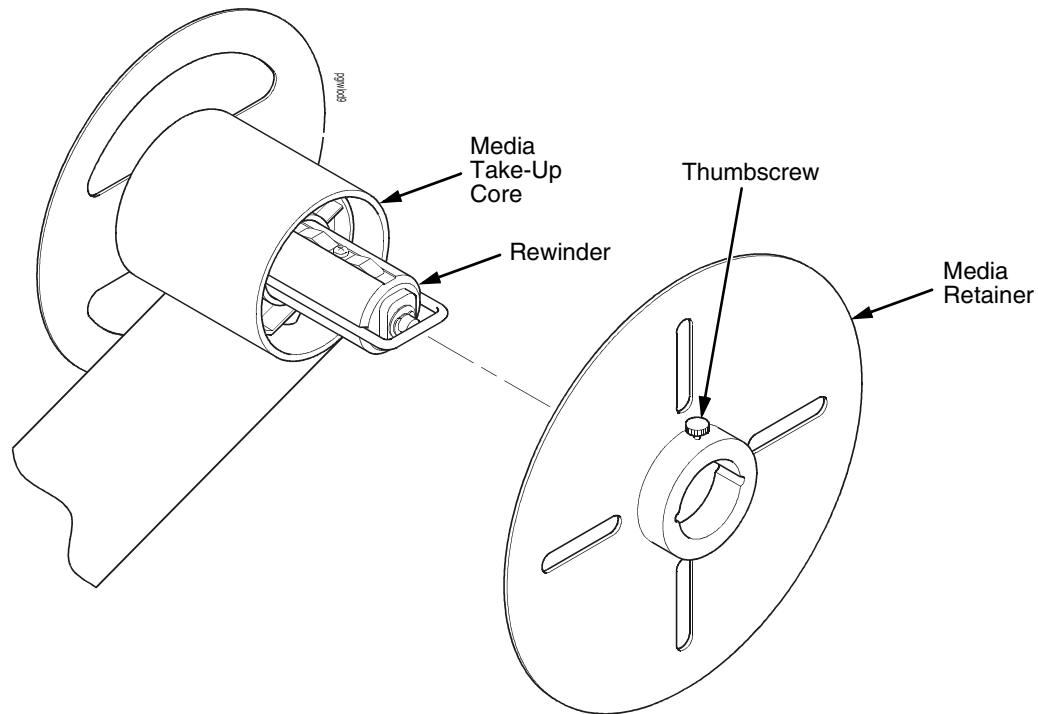

Figure 21. Installing the End Plate
8. Install the media retainer onto the rewriter as shown in Figure 21 until it is flush against the media take-up core.
3. Manually rewind the remaining printed labels onto the media roll by turning the media retainer (refer to Figure 21 on page 249).